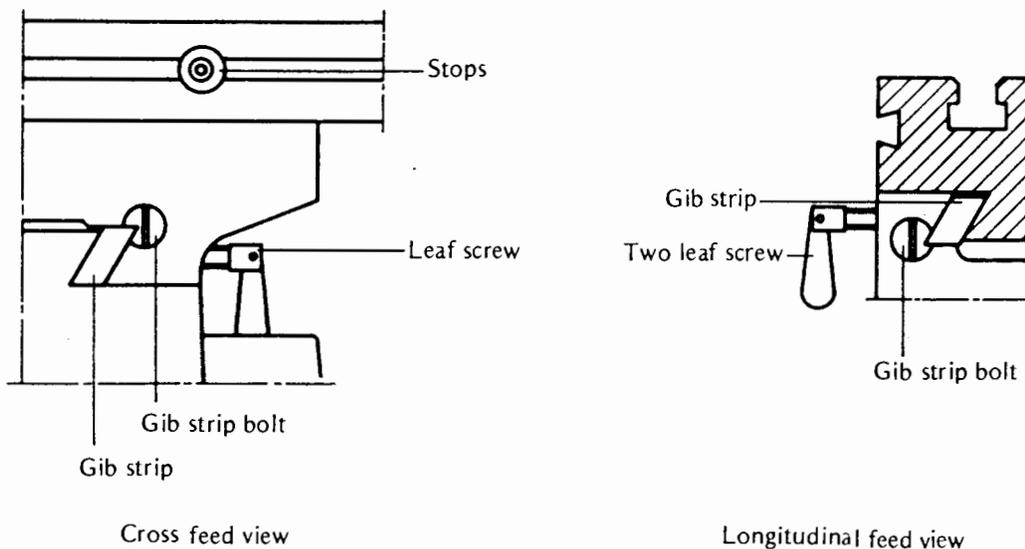

Fig. 3
7. ADJUSTING TABLE SLACK AND COMPENSATE FOR WEAR (See Fig. 3)
- (1) Your machine is equipped with Gib strip adjustment to compensate for wear and excess slack on cross and longitudinal travel.
- (2) Clockwise rotation the Gib strip bolt with a big screw driver for excess slack otherwise a little counter clockwise if too tight.
- (3) Adjust the Gib strip bolt until feel a slight drag when shifting the table.
8. CLAMPING, TABLE BASE, AND MACHINE BASE (See Fig. 3)